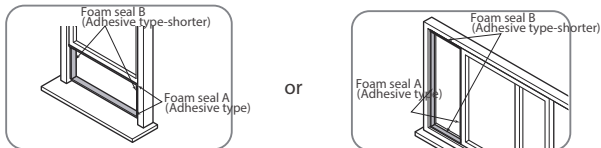

Fig. 8
1. Cut the adhesive foam seal A and B strips to the proper lengths, and attach them to the window sash and frame as shown. (Fig. 8)